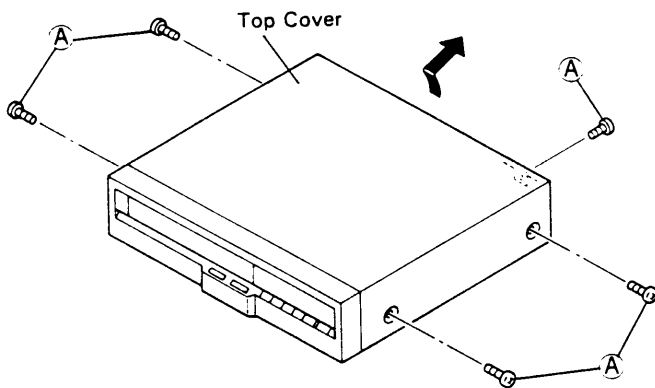

Fig. 1-1-1
1. Refer to Fig. 1-1-1 and set for the EJECT (Stop) mode and disconnect VCR from AC power.
2. Take out 5 screws (A). To remove the top cover, slide in direction of arrow and lift it away.